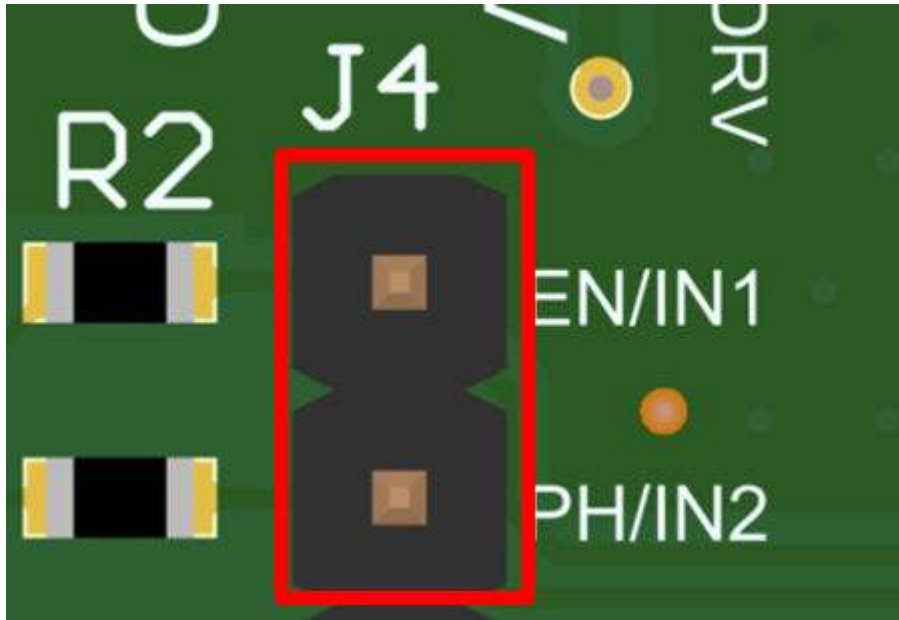

Figure 6-1. EN/IN1 and PH/IN2 pins shorted
2. Short EN/IN1 and PH/IN2 pins on J4 with a jumper. See Figure 6-1.